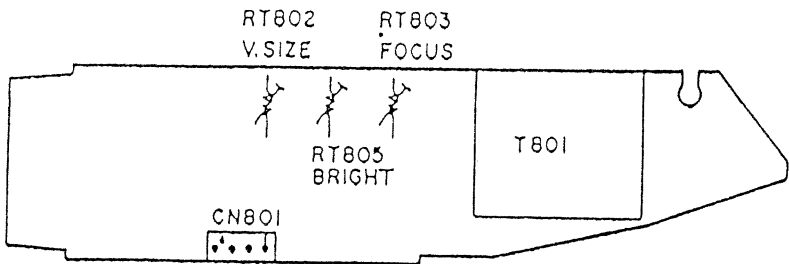

Fig. 4-53 Electronic Viewfinder Circuit Board (Components Side)
3) EVF Vertical Size Adjustment (Fig. 4-53)
4) EVF Brightness Adjustment (Fig. 4-53)
5) EVF Focus Adjustment (Fig. 4-53)